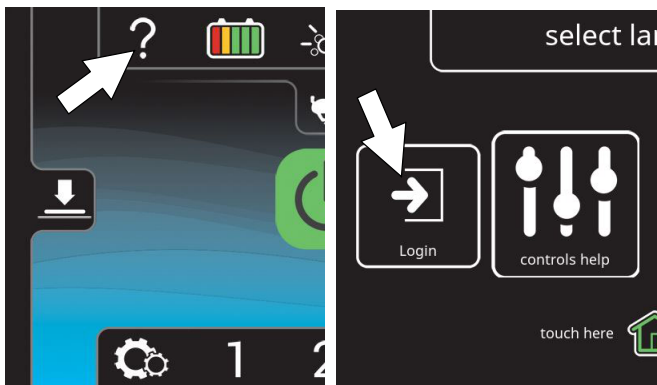

FIG. 185
2. Press the help button and log into the machine as supervisor mode (Figure 185). See *Entering the Supervisor Mode*.